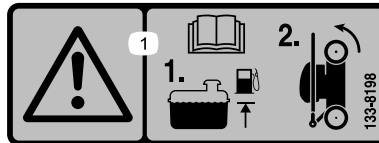

Figure 17
1. Ensure that the level of fuel in the fuel tank is no higher than what is recommended by the engine manufacturer; refer to the engine manufacturer's decal on the engine (Figure 17).